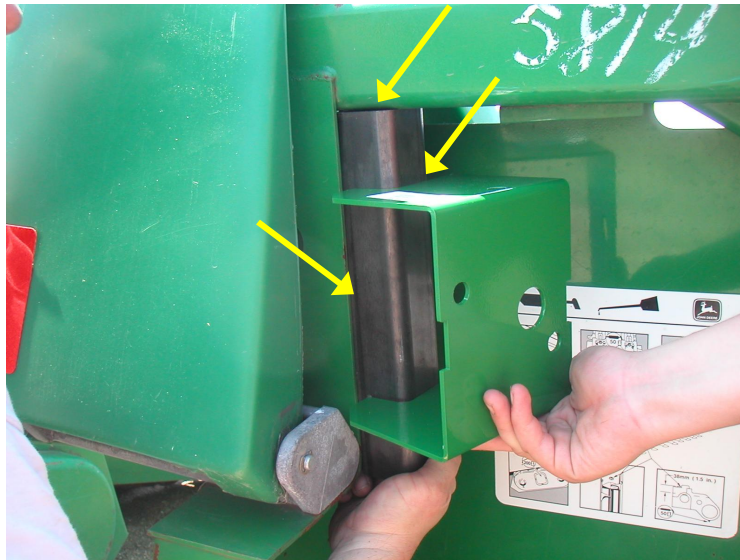

Figure 1
1. On the left hand edge of the head, position tube (**LAN-1022**) parallel with edge of frame. (See **Figure 1**)